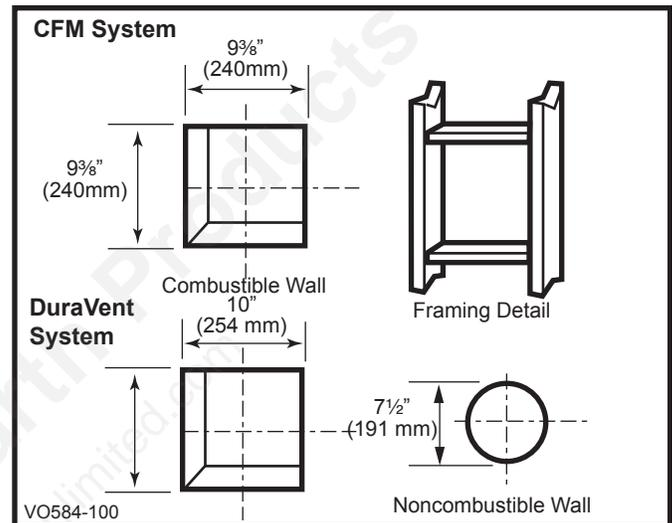

Fig. 22 Locate vent opening.
1. Locate the vent opening on the wall. Refer to Figure 4, Page 6, to determine the opening centerline. It may be necessary to first position the stove and measure to find the hole location. Depending on whether the wall is made of combustible materials, cut the opening to the size shown in Figure 23. Combustible wall openings must be framed as shown in Figure 22.